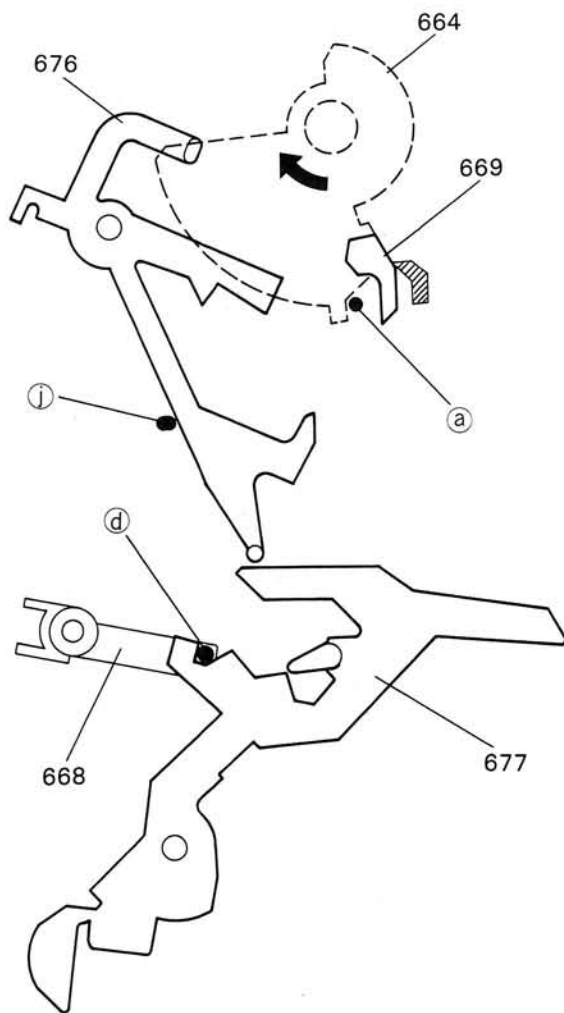

Fig. 3-1
The auto size cam (677) is fixed at the position shown in Fig. 3-1 by the boss (d) of the set lever (668).